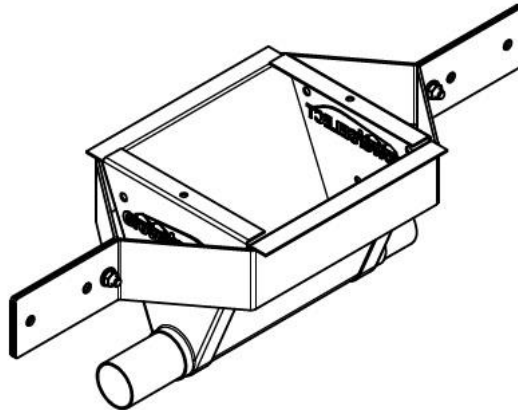

Figure 3
5. Loosely assemble (2) Suspension Brackets (Ref# 6) around the unloader as shown below in Figure 3 using Hex bolts 5/16-18 X 0.75" (Ref# 9) and Hex Flange Nuts 5/16-18 (Ref# 16).